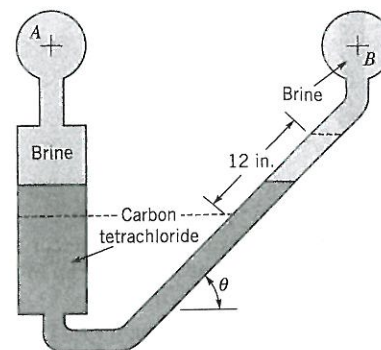

Figure P2.60
2.60 The inclined differential manometer of Fig. P2.60 contains carbon tetrachloride. Initially the pressure differential between pipes A and B, which contain a brine ($SG = 1.1$), is zero as illustrated in the figure. It is desired that the manometer give a differential reading of 12 in. (measured along the inclined tube) for a pressure differential of 0.1 psi. Determine the required angle of inclination, θ .